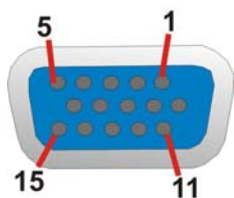

Figure 3-28: VGA Connector
- CN Pinouts:** See Figure 3-28 and Table 3-30